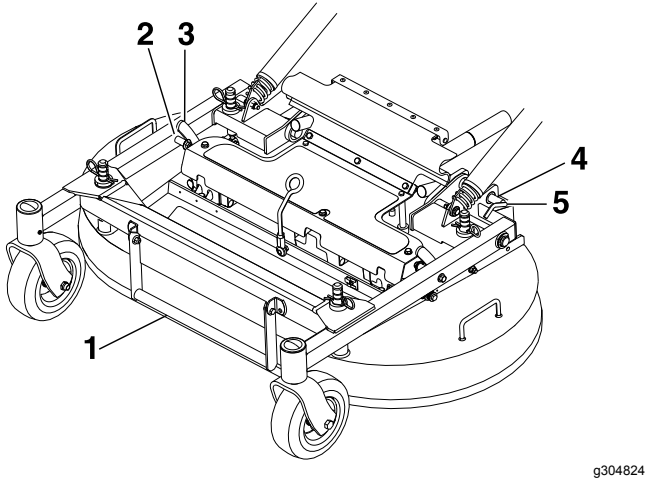

Figure 8
3. Release the mower deck locking pins on each side (Figure 8).
2. Push the deck-locking pins inward and rotate them forward to securely lock the mower deck in the lowered position (Figure 8).